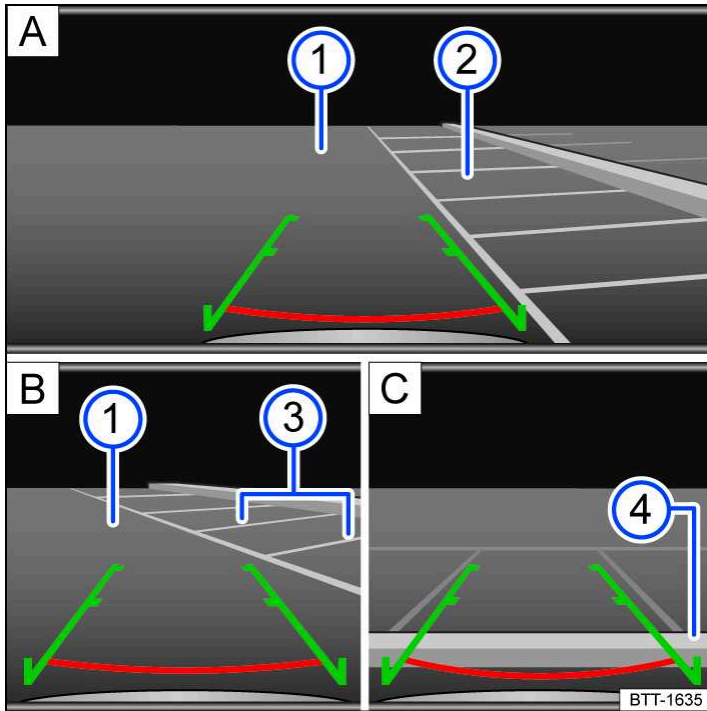

Fig. 1 Infotainment system: parking using the rear view camera system.
1. Position the vehicle in front of the parking space → *Fig. 1* **A** **2**.